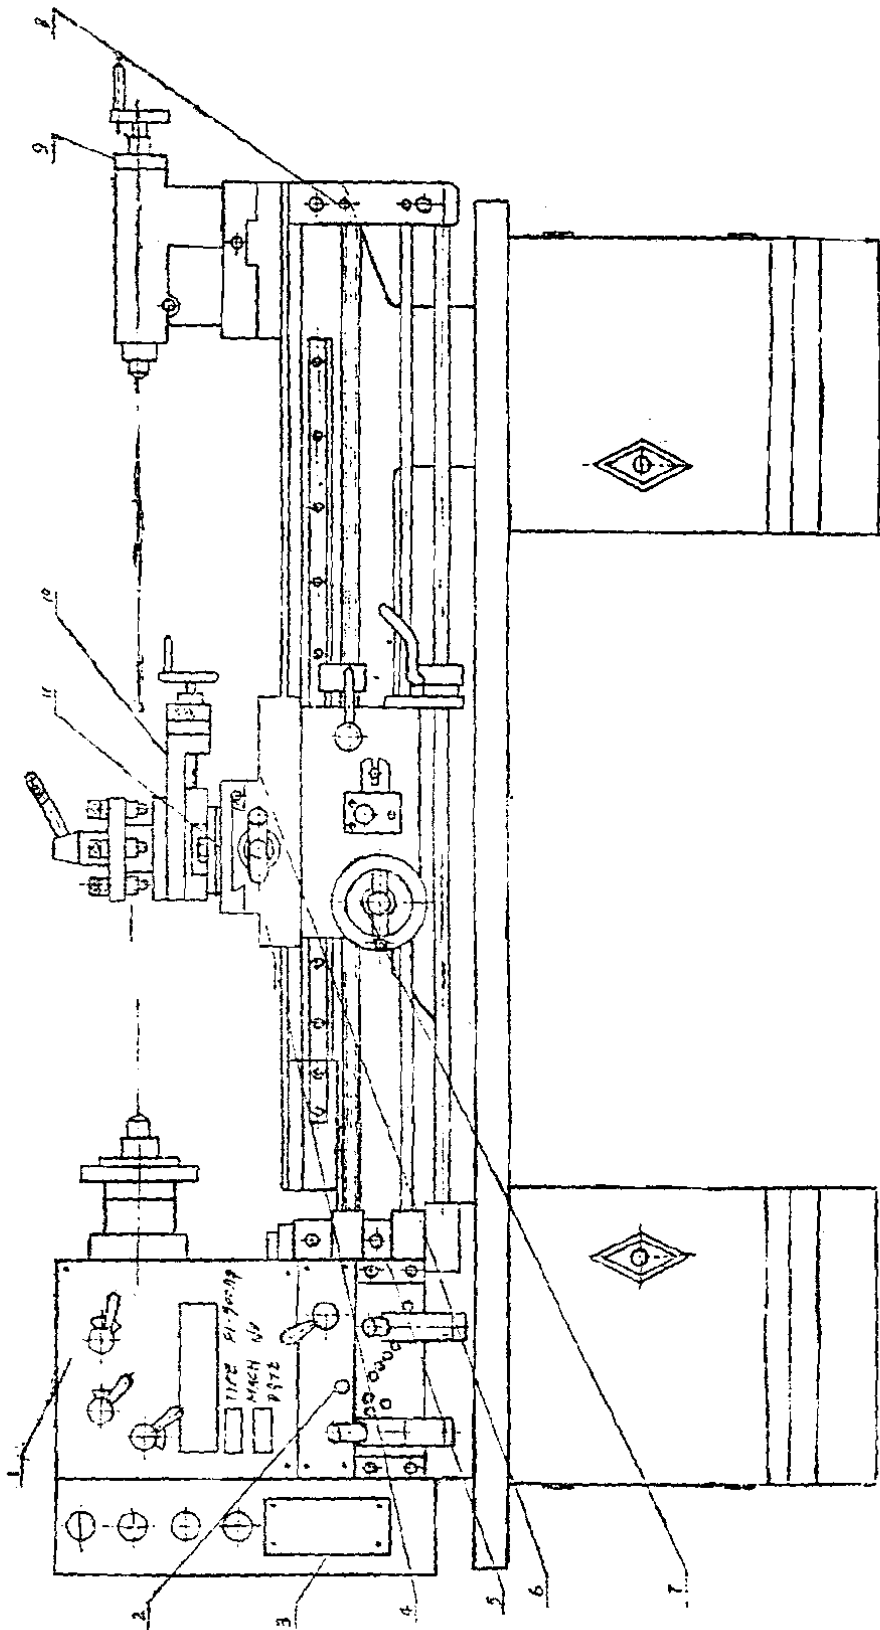

Fig 6 Lubrication Chart
- * All moving parts and sliding surfaces should be regularly lubricated with clean lubricating oil. Please refer to Fig. 6 for the lubrication holes.
- * No.2 through 11 are lubrication points (see Fig. 6). They are oiled with oil gun twice a day.